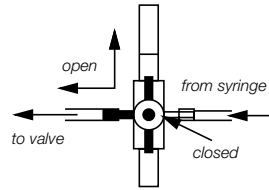

fig. 10
- With the silicone tube immersed in the water bath, turn the three-way faucet so that the syringe is isolated from the manometer (see fig. 10).
- Carefully maintain a flow through the shunt and turn the three-way faucet as shown in fig. 10 to isolate the syringe. As soon as the three-way faucet is in the correct position, the water column should begin to drop. The syringe is now isolated from the valve and it is not necessary anymore to maintain its flow. Repeat steps b to f if the water column fails to drop.